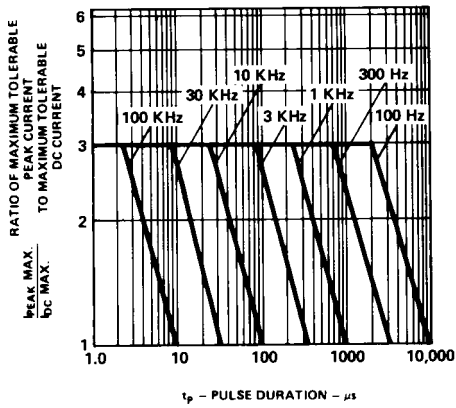

Figure 5. Maximum Tolerable Peak Current vs. Pulse Duration ( $I_{DC}$  MAX as per MAX Ratings).
1. See Figure 5 (Red), 10 (Yellow), or 15 (Green) to establish pulsed operating conditions.